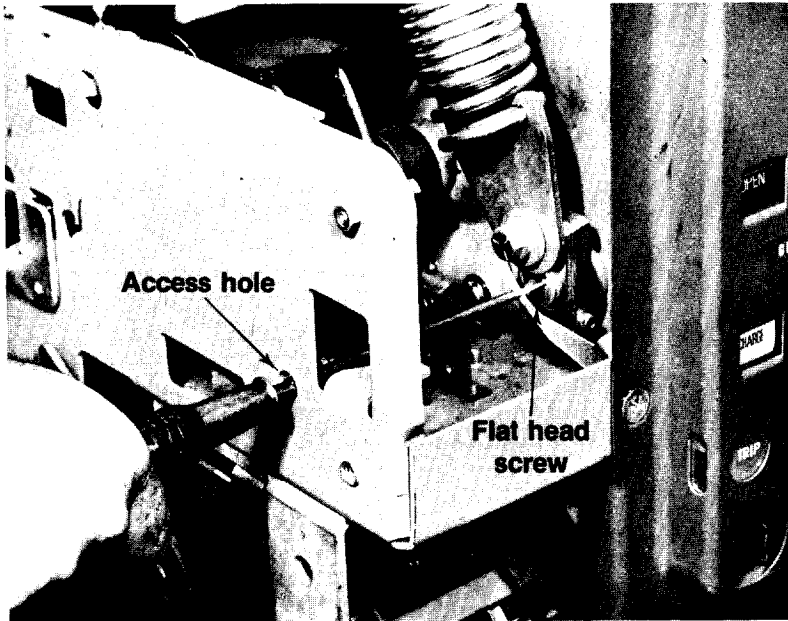
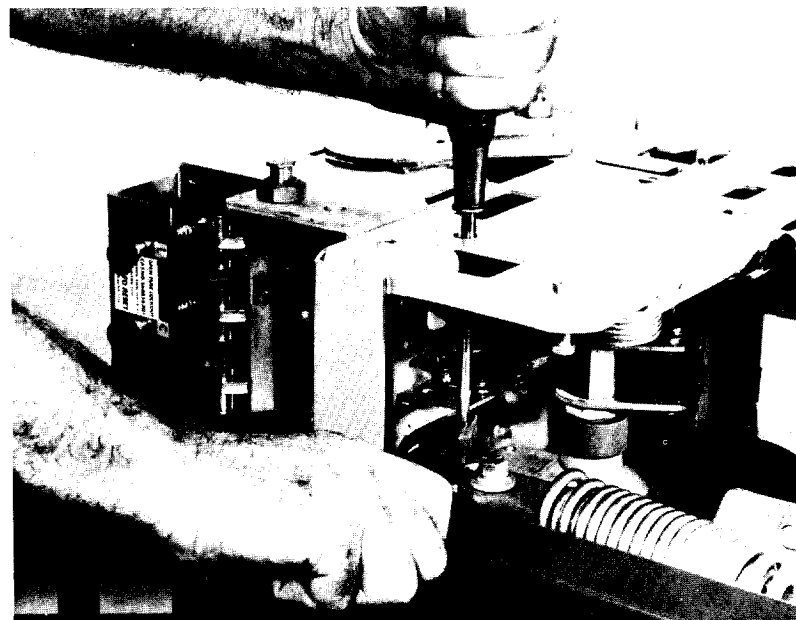

FIG. 9
FIG. 10
7. Unscrew and discard the flat head screw, which has been secured with locktite, by using a large screwdriver through the access hole provided, (see figure 9). It may be necessary to turn the breaker on its side and use a pair of pliers with the screwdriver to unscrew the flat headscrew, (see figure 10). If this attempt fails, warm up the screw with a large soldering iron or hot air gun to soften the locktite for screw removal.